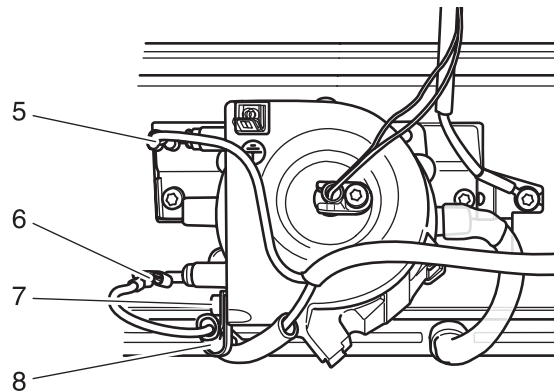

Fig. 10
- Disconnect plugs 5 and 6 (fig. 10).
- Place temperature-sensor fuse as shown in fig. 10 and hold it firmly.